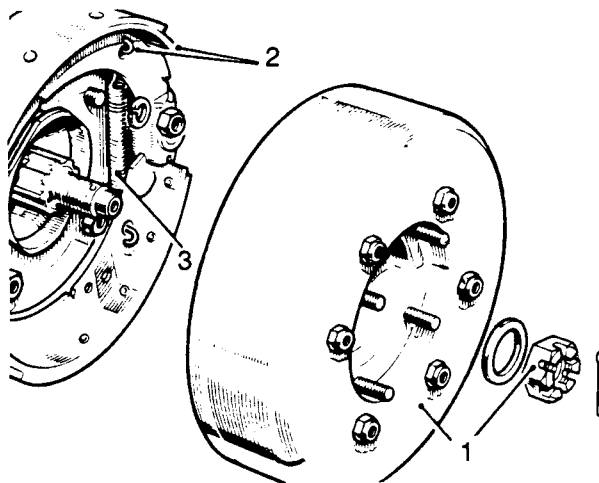

Fig K2.6
- (6) Refer to Fig K2.6. Remove the fixings and withdraw the brake drum (1).
- (7) Remove the brake shoes together with the pull-off springs (2).
- (8) Separate the shoes by detaching the springs (3).